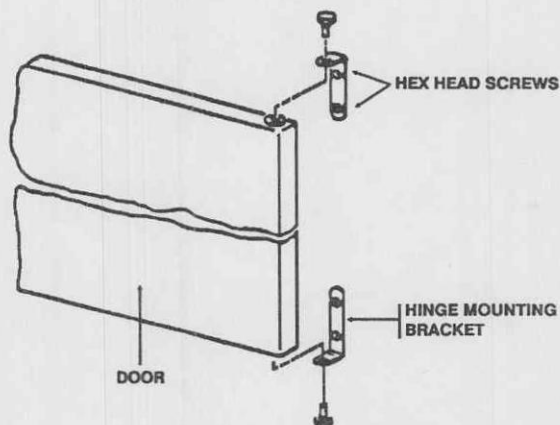
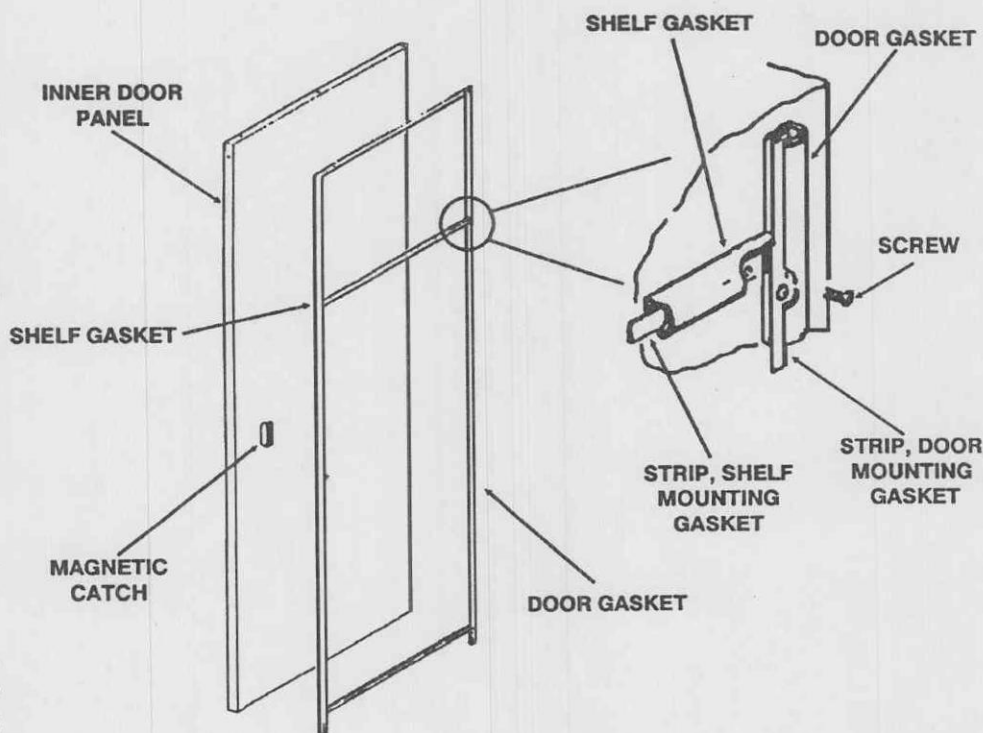

Figure 3-10. Door brackets.
Figure 3-11. Door and shelf gaskets.
a. Adjustment (fig 3-10).
(1) Loosen the two hex head screws on both the upper and lower hinge mounting brackets.
(2) Arrange blocking under the lower edge of the door to align it with the front of the cabinet.
(3) Tighten the hex head screws.
(4) Ensure that the door alignment is correct or repeat steps (1) through (3) again.
b. Gasket removal and replacement (fig 3-11).
(1) Ensure that the warming cabinet is off by depressing the power "OFF" switch.
(2) Open the door fully and stabilize it with blocking.
(3) Lift the edge of the shelf gasket to expose the mounting strip and the Phillips-head screws.
(4) Remove the screws and then remove the mounting strip and shelf gasket.
(5) Lift the edge of the door gasket to expose the mounting strips and the Phillips-head screws. Sequentially remove the screws, mounting strips, and door gasket.
(6) Clean the edge of the inner door panel with a mild cleaning agent.
(7) Insert the mounting strips into the new gaskets.
(8) Install new gaskets by sequentially replacing the screws around the gaskets.